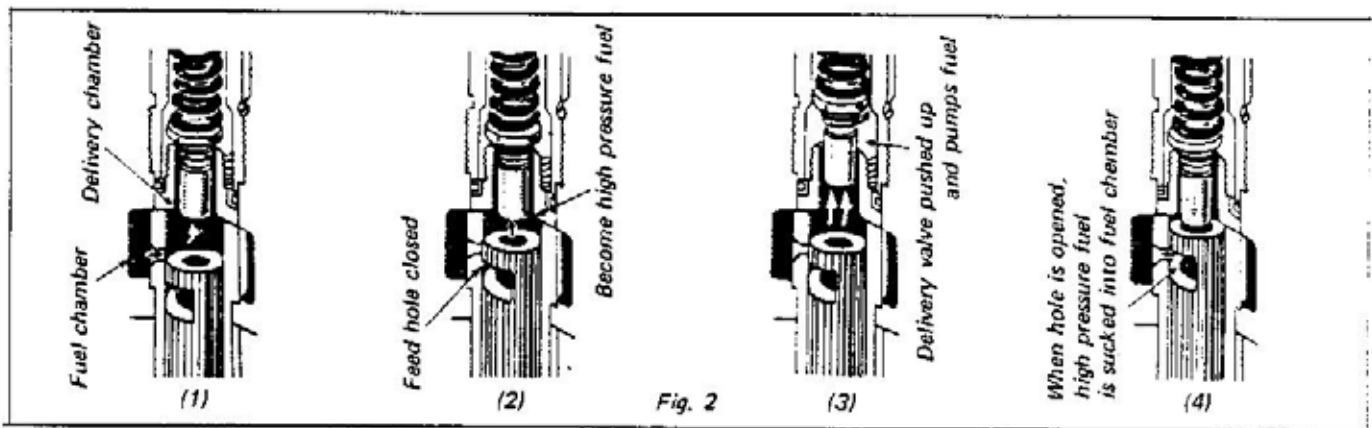

Fig. 2
- i. When the plunger is at bottom dead center, the fuel flows from the fuel chamber through the feed hole as shown in Fig. 2(1) into the pump cylinder.
- ii. The camshaft turns and the plunger rises. When the upper surface of the plunger is the same as the upper tip of the feed hole, fuel is started to be sent under pressure (Fig. 2, (2)). When the plunger further rises thereafter, the fuel opens the delivery valve, and is sent to the high pressure pipe and the nozzle, Fig. 2(3).
- iii. The plunger rises further, and when the starting control group and the feed hole is aligned, as shown in Fig. 2(4), the high pressure fuel at the top of the plunger flows through the hole in the central part of the plunger, through the control group, feed hole and is sent back to the fuel chamber. The pressure then is decreased and the sending of fuel under pressure is completed.